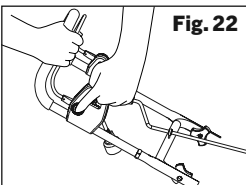

Fig. 22
2. While depressing the safety switch button, pull the ON/OFF switch bail toward you. Once the machine powers on, release the safety switch button and begin operation (Fig. 22). The machine can only be started by depressing the safety switch button first, followed by squeezing the ON/OFF switch bail; reverse operation will not start the machine.